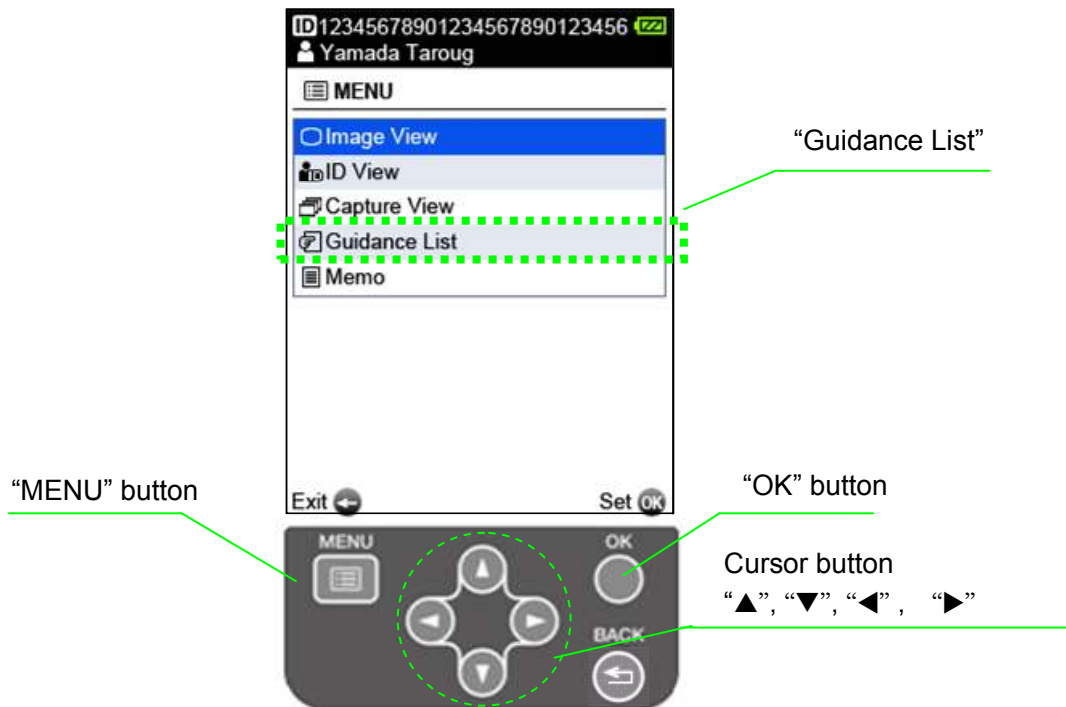

Figure 4.38
2. Choose the "Guidance List" by the Cursor button, and push "OK" button. (Refer to Figure 4.38)